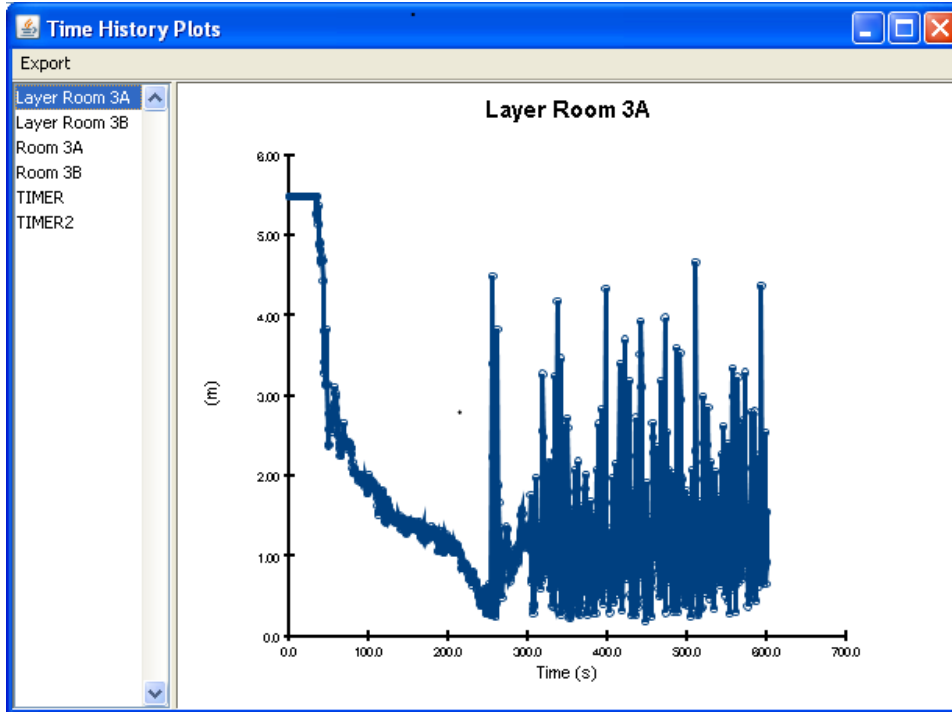

Figure 6.24. Layer height in room 3A
2. A dialog will appear showing the different types of 2D results that are available. Select **switchgear_devc.csv** and click **Open** to view the device output. The first display will be the layer height in Room 3A, Figure 6.24.